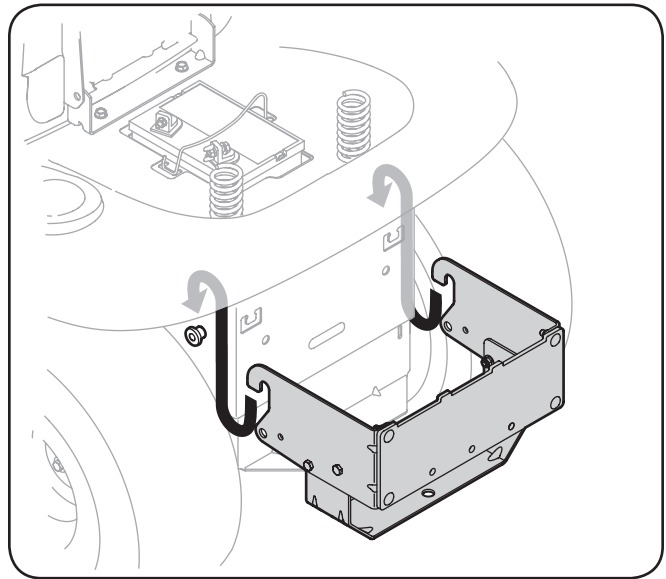

Figure 4-8
1. Place the hooked ends of the mounting assembly over the shoulder bolts, as in Fig. 4-8, on the tractor and line up the hitch support bracket center hole with the hole on the tractor's hitch.